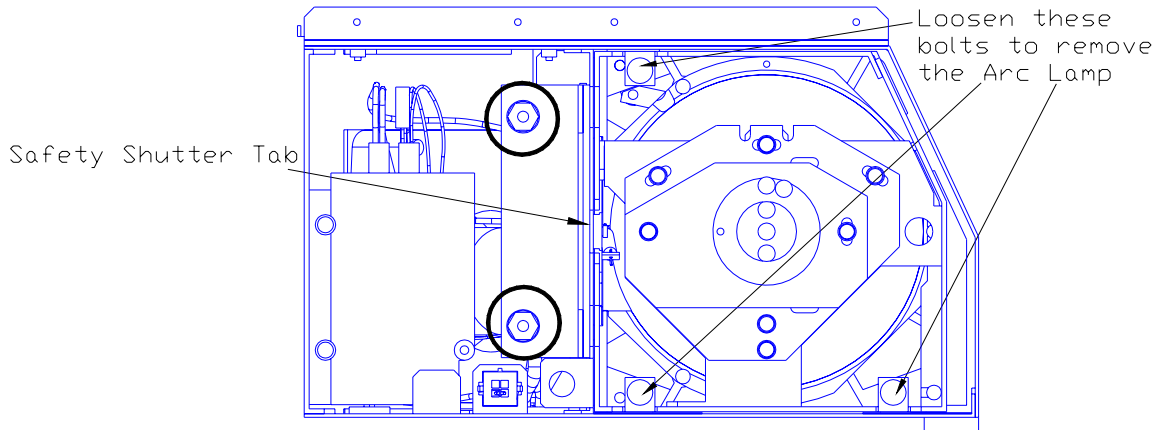

Figure 4-4. Lamphouse Dock and Arc Lamp with cover off.
5. Remove and label the two Arc Lamp cables at the Ignitor side (these two connections are shown inside the heavy circles in *Figure 4-4*). Leave these cables connected to the Arc Lamp when returning it to the factory.
6. Loosen the three Arc Lamp holding bolts (*Figure 4-4*).
7. When reinstalling the Arc Lamp, be sure that the Safety Shutter tab on the left side (*Figure 4-4*) engages the left side of the housing so that the Arc Lamp cooling door opens when the Arc Lamp is installed.